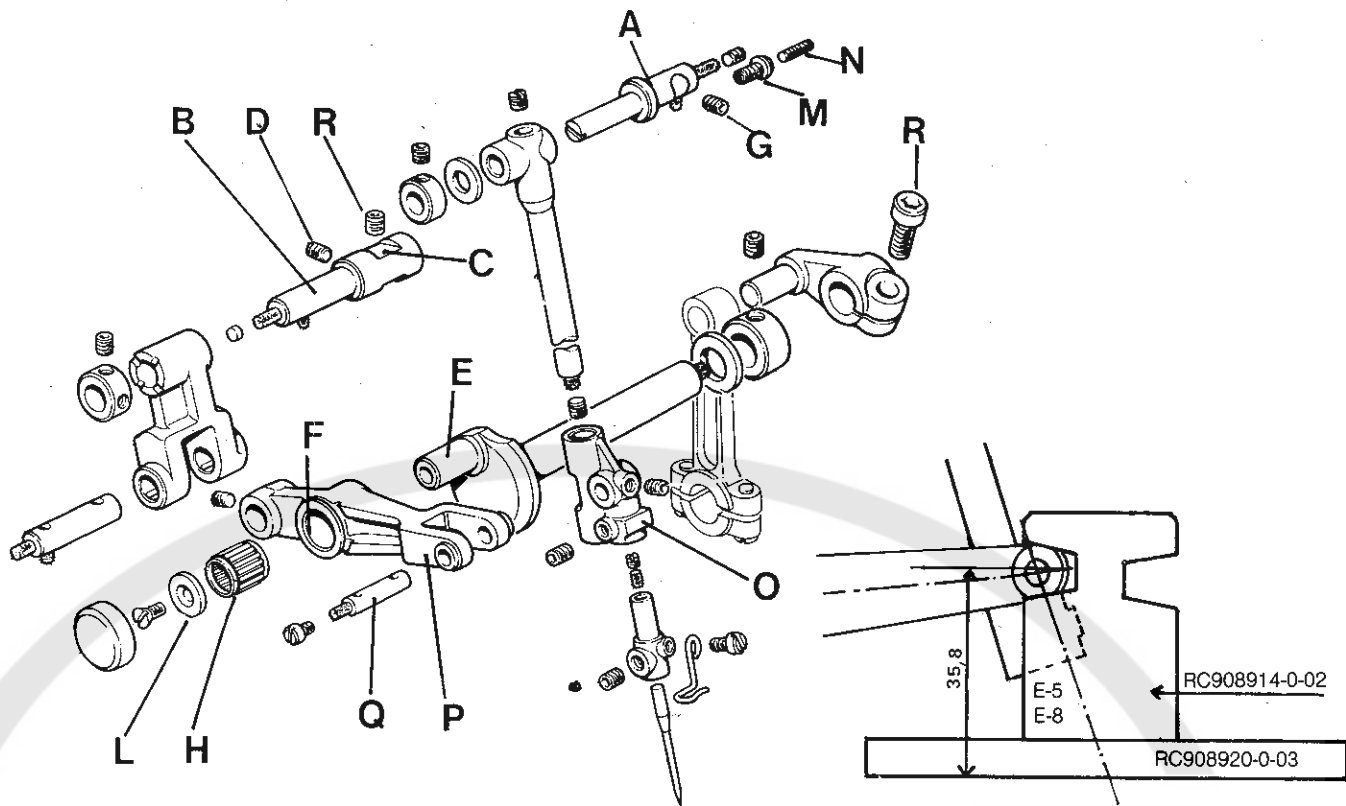
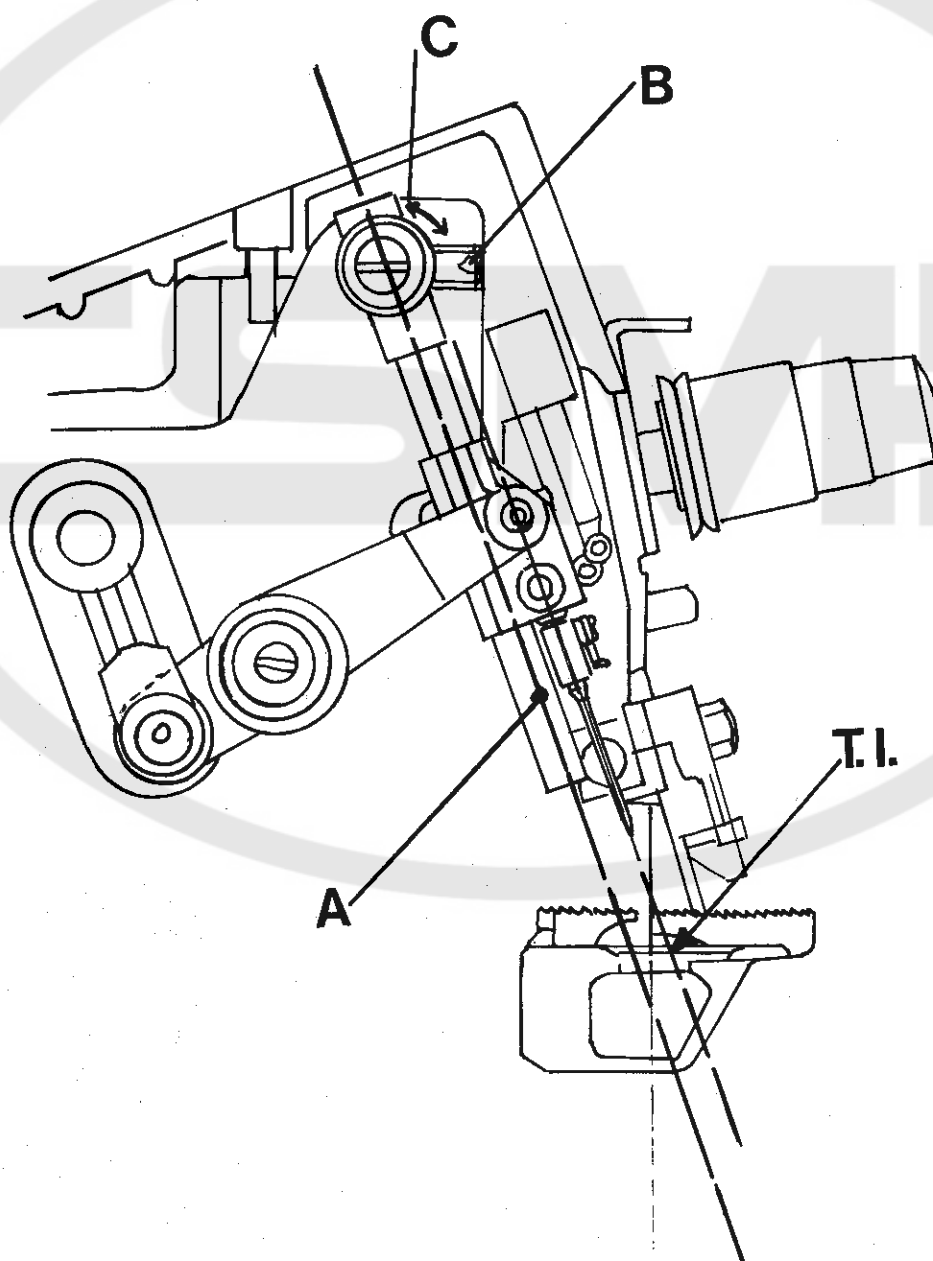

fig.2
fig.4
INSTRUCTIONS FOR SETTING ON AND ADJUSTING THE NEEDLE CONTROL MECHANISM (fig. 2)
- Arrange the needle control mechanism assembly (fig. 2) with pins A and B positioned as follows:
- b) calibrator support pin B with plane C corresponding to screw D (fig. 2).
- Set pins A and B in their respective holes on the machine head, taking care to insert the button of hand control E (fig. 2) at the same time in the hole in lever F. When inserting calibrator pin B (fig. 2), lubricator wick A (fig. 3) must be pulled from the end inside the machine so that the other end is embedded in the spot-facing, pressing spring B (fig. 3) and thus permitting said pin to pass. Releasing wick A (fig. 3) spring B (fig. 3) extends, giving reliable lubrication contact between wicks A and C inside the pin.
- Center locking screws R - G (fig. 2) of the two pins and insert roller retainer H, taking care to choose the correct tolerance value, which should be that indicated on washer L (fig. 2).
- Tighten screw M (fig. 2) until it is right down on needle bar eccentric support pin A (fig. 2)
- Set the needle clamp slider to the correct height. When the slider is brought to its lowest position there must be a distance of 35.8 mm. (1.13/32") between the axis of pin Q (fig. 2) and the surface of plate RC908920-0-03 (fig. 2-inset). Adjustment is made by turning screw R (fig. 2).
Gauge RC908914-0-02 and plate RC908920-0-03 are used as shown in fig. 2 — inset, are a help in obtaining easy and accurate adjustment.
- Center the needle in the needle plate hole. The operation is made accurate and easy by screw M (fig. 2) which, being right up against the pin, offers the possibility of moving it just by screwing.
- Block screw M by fully tightening grub screw N (fig. 2)
- Center the needle clamp slider O (fig. 2) in the fork of lever P (fig. 2), dividing play equally, by moving pin B (fig. 2).
- Tighten locking screws D — R (fig. 2).
NEEDLE BAR ALIGNMENT (Fig. 4)
For aligning needle bar A (fig.4) to the needle movement trajectory T.I. (fig.4) special gauge (RC908920-0-03/RC979550-1-00) with dial comparator A (fig.5) is used, point B (fig.5) of which is positioned on the special extension C (fig.5) screwed to the bottom of the needle bar (see illustration). When the needle clamp slider moves from the bottom dead center point to the top dead center point or viceversa, there should be the least possible
Adjusting and checking is done by turning eccentric pin C (fig.4) in one direction or the other. After making sure that C is right up against screw M (fig.2), lock the pin with its screw B (fig.4).
This offers the possibility of orienting the rear needle guard so that the needles are correctly positioned in relation to the two internal planes. (see Fig. 2) Tighten the locking screw, taking care not to alter the height setting.